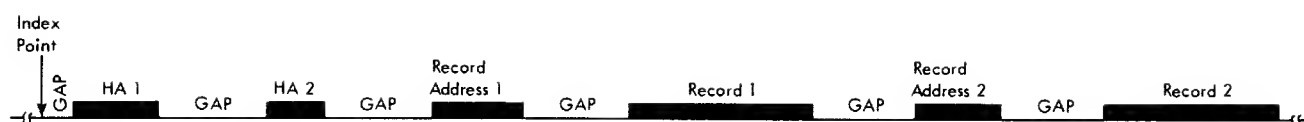

Figure 7. Disk Track Address and Data Arrangement
A data track and the data to be written or read from a track are identified by a home address 1 (HA_1), a home address 2 (HA_2), and as many record addresses (RA) as there are record areas to be established on the data track (Figure 7).
Each record area established for a data track is preceded by a record address (RA) (Figure 7). The record address consists of six or more characters, which may be numeric, alphabetic, or special characters. They are assigned and written by the user to fit any convenient addressing scheme. A record address need not have any relationship to the home address of the track where it is written. When the record address (six characters) is verified, only the numeric portion (four low order bits) of the first four characters is verified. The low-order six bits of the last two characters are
Note: The index point (Figure 7) is used as a machine reference point on the track; that is, it indicates both the beginning and the end of the track. The index is used by the 7631 in file-control/disk-storage synchronizing functions. The index is not normally used in programming operations.